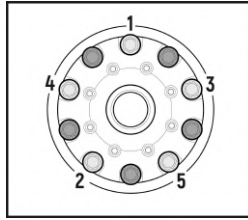
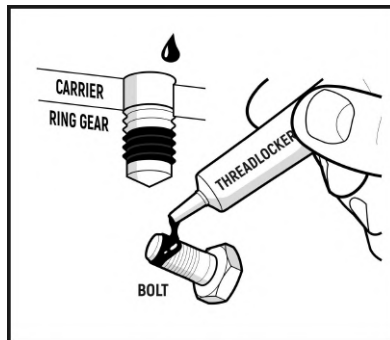

Fig. 19
Fig. 21
- Apply threadlocker to the remaining **five** threaded holes in the ring gear and to the bolt threads. (**Fig. 21**) Install these **five** bolts and tighten them with a torque wrench to the torque specified in the vehicle service and repair manual. (**Fig. 19**)
2.9 Apply threadlocker to the threads of each bolt and to the threaded holes in the ring gear. (**Fig. 21**)